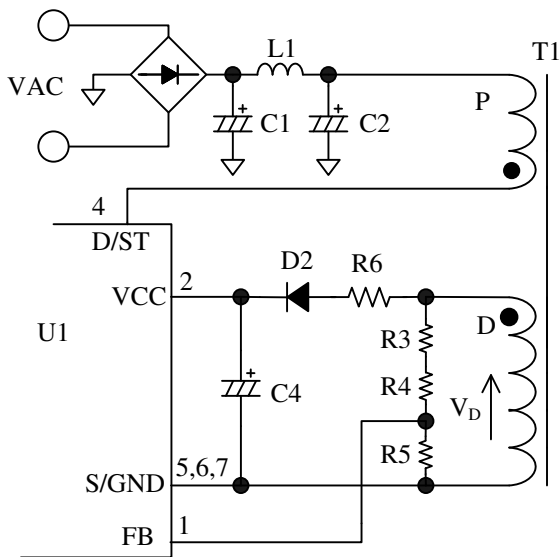
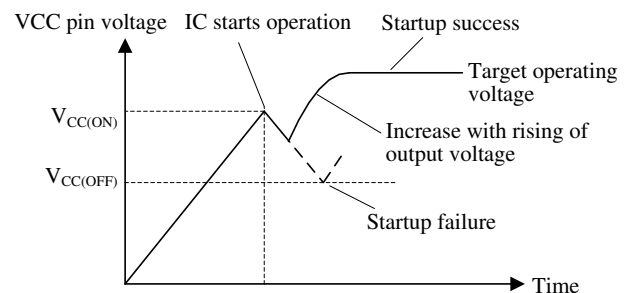

Figure 10-1 VCC pin peripheral circuit
Figure 10-3 VCC pin voltage during startup period
Figure 10-1 shows the VCC pin peripheral circuit.
Figure 10-3 shows VCC voltage behavior during the startup period. When VCC pin voltage increases to $V_{CC(ON)} = 15.0\text{ V}$ at startup, the IC starts the operation. Then circuit current increases and VCC pin voltage decreases. Since the Operation Stop Voltage $V_{CC(OFF)} = 8.1\text{ V}$ is low, the auxiliary winding voltage reaches to setting value before VCC pin voltage decreases to $V_{CC(OFF)}$. Thus control circuit continues the operation. The voltage from the auxiliary winding D in Figure 10-1 becomes a power source to the control circuit in operation. The approximate value of auxiliary winding voltage is about 12 V to 16 V, taking account of the winding turns of D winding so that VCC pin voltage satisfies Equation (2) within the specification of input and output voltage variation of power supply.
When VCC pin voltage reaches to $V_{CC(OFF)}$ and a startup failure occurs as shown in Figure 10-3, increase the C4 value. Since the larger capacitance causes the longer startup time of IC, it is necessary to check and adjust the startup process based on actual operation in the application.